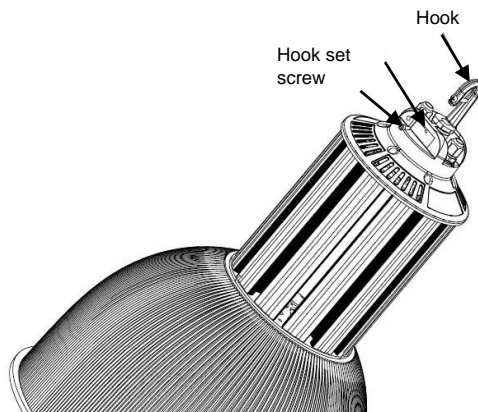

Figure 3
6. Secure the set screw on hook by tightening. (See Fig. 3)